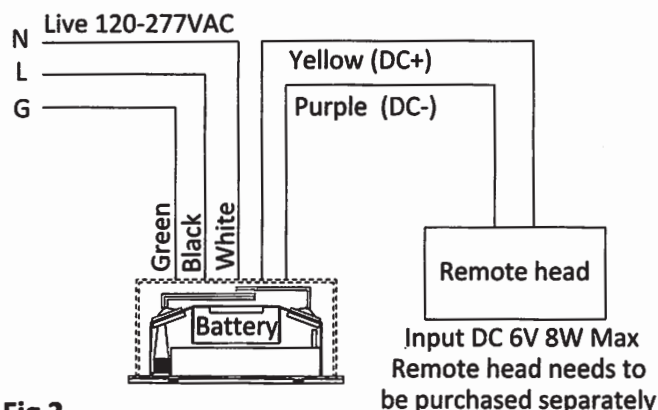

Fig 2
2. INPUT WIRING: Connect BLACK/WHITE AC input wiring to building supply with wire nuts, and connect GROUND to Housing with Screw mount. (Fig 2)